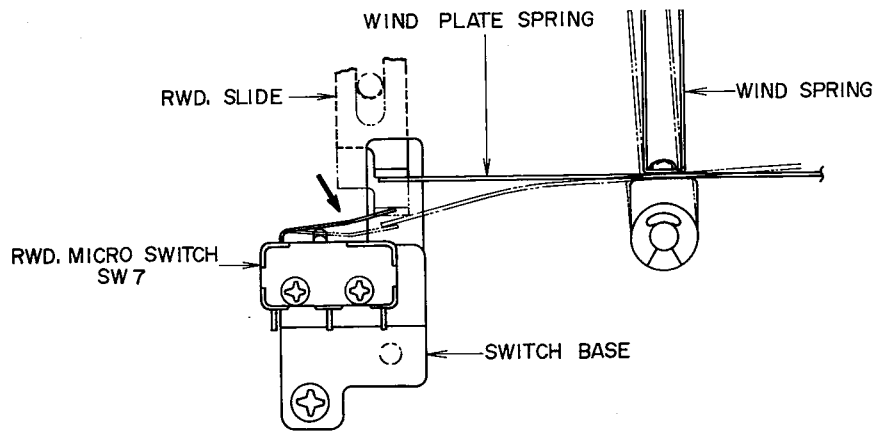

Fig. 12
9. REWIND MICRO SWITCH OPERATION ADJUSTMENT (Refer to Fig. 12)
Adjust by bending the actuator (phosphor bronze plate) as indicated by the arrow mark in the Fig. 12 so that when the machine is set to RWD mode, RWD slide pushes micro switch properly.